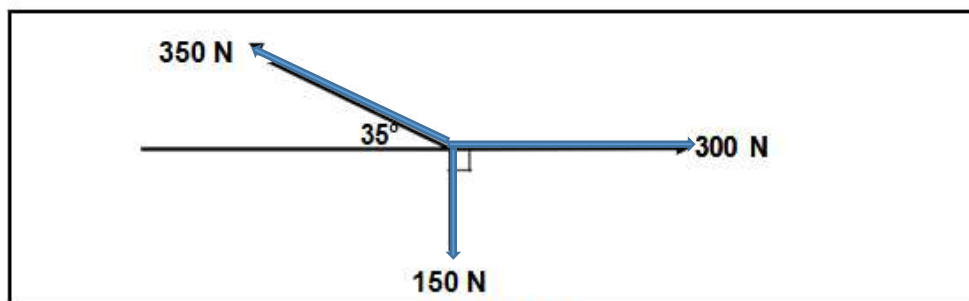

FIGURE 6.2
- 6.3 FIGURE 6.2 below shows a system of forces with three coplanar forces acting on the same point. Use calculations and determine the magnitude and direction of the resultant force of this system of forces.
(Draw and complete the diagram in FIGURE 6.2. Show ALL the horizontal and vertical components before you do the calculations.)